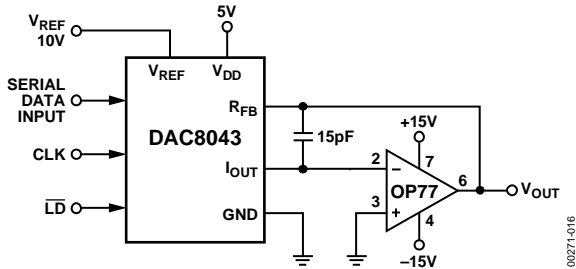
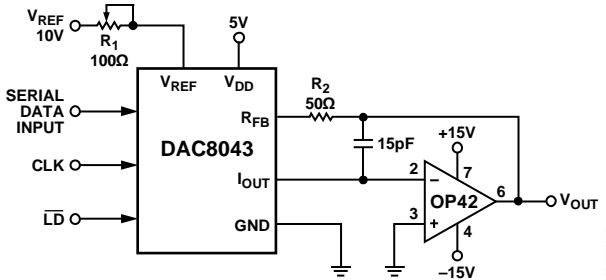

Figure 16. Unipolar Operation with High Accuracy Op Amp (2-Quadrant)
Figure 17. Unipolar Operation with Fast Op Amp and Gain Error Trimming (2-Quadrant)
1. Phase compensation (see Figure 16 and Figure 17).
In most applications, linearity depends upon the potential of the I_{OUT} and GND pins being equal to each other. In most applications, the DAC is connected to an external op amp with its noninverting input tied to ground (see Figure 16 and Figure 17). The amplifier selected should have a low input bias current and low drift over temperature. The amplifier's input offset voltage should be nulled to less than 200 μV (less than 10% of 1 LSB).
The circuits shown in Figure 16 and Figure 17 may be used with an ac or dc reference voltage. The output of the circuit ranges between 0 V and approximately -V_{REF} (4095/4096), depending upon the digital input code. The relationship between the digital input and the analog output is shown in Table 6. The limiting parameters for the V_{REF} range are the maximum input voltage range of the op amp or ±25 V, whichever is lowest.
Gain error may be trimmed by adjusting R₁, as shown in Figure 17. The DAC register must first be loaded with all 1s. R₁ may then be adjusted until V_{OUT} = -V_{REF} (4095/4096). In the case of an adjustable V_{REF}, R₁ and R₂ may be omitted, with V_{REF} adjusted to yield the desired full-scale output.
¹ Nominal full scale for Figure 16 and Figure 17 circuits is given by
² Nominal LSB magnitude for Figure 16 and Figure 17 circuits is given by